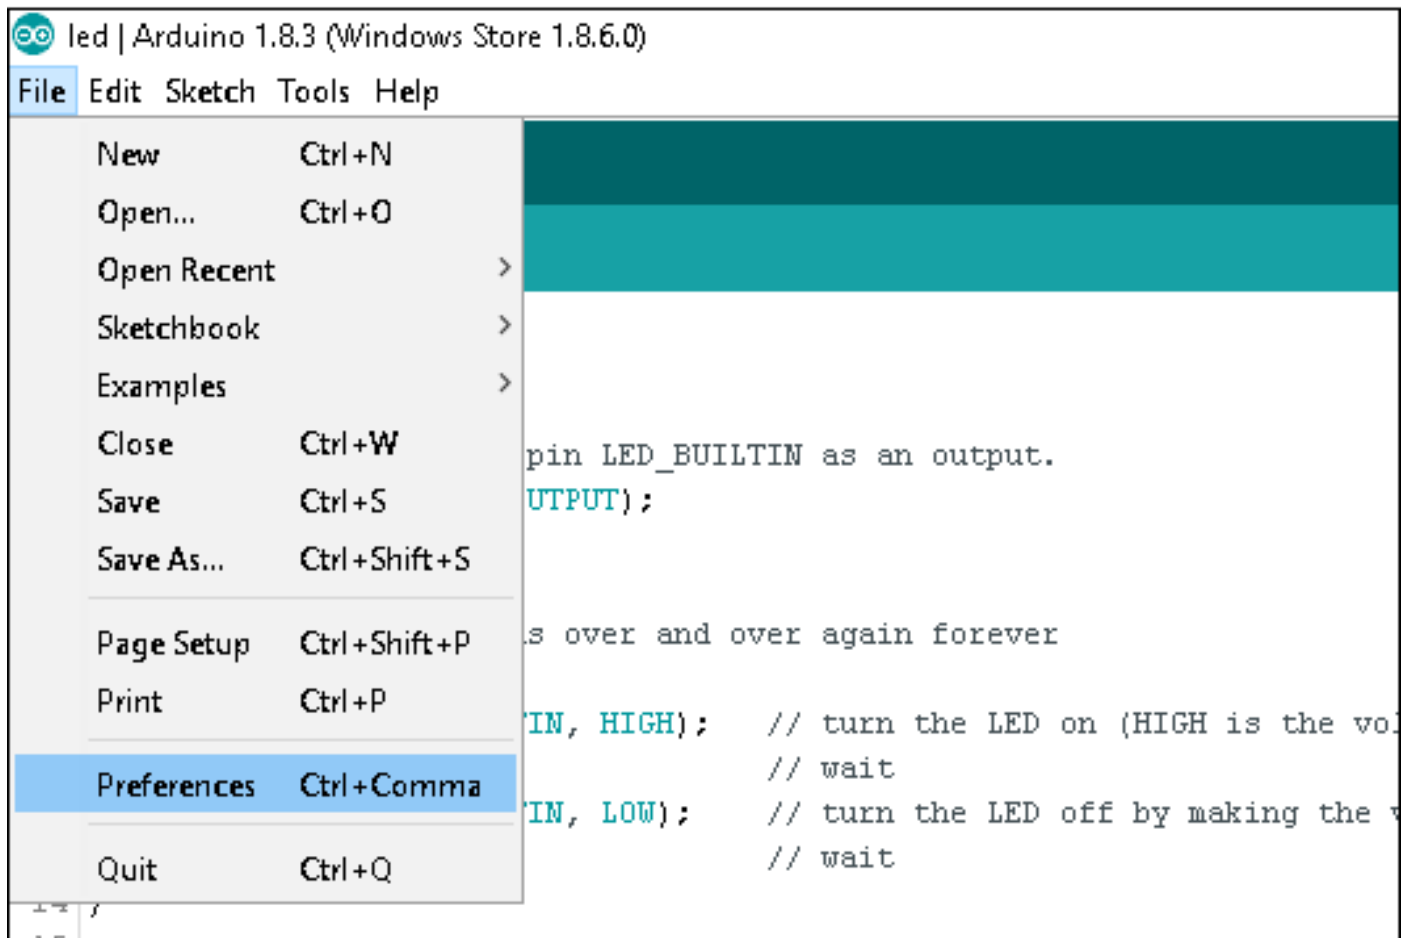

Figure 5-3 Arduino IDE, Preferences Menu
- 2) After the Arduino IDE is installed, launch it and click the menu File / Preferences, as shown in Figure 5-3: